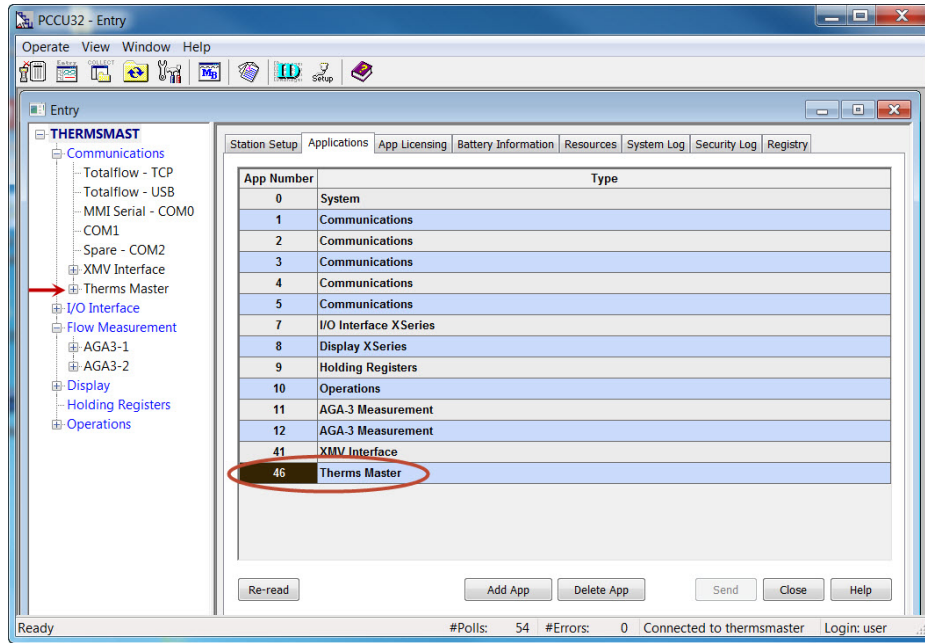

Figure 47. Verify Therms Master is added
- 7) Click re-read to verify the application has been added and it now appears in the application list associated with the correct application number (see Figure 47). The application displays in the tree view on the left.